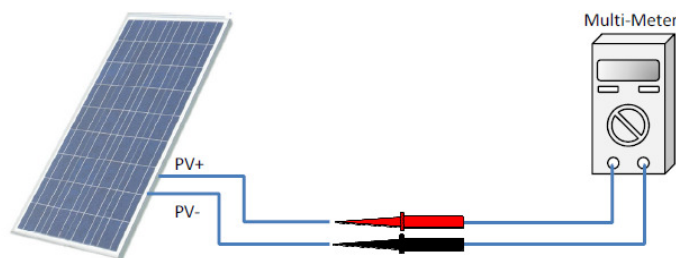

Figure 7.1.2: Polarity checking
- B) For the DC cables, the terminal connectors is recommended to be used with cables in order to ensure the quality of conducting between DC cables and DC terminal is good as shown in figure 7.1.2.